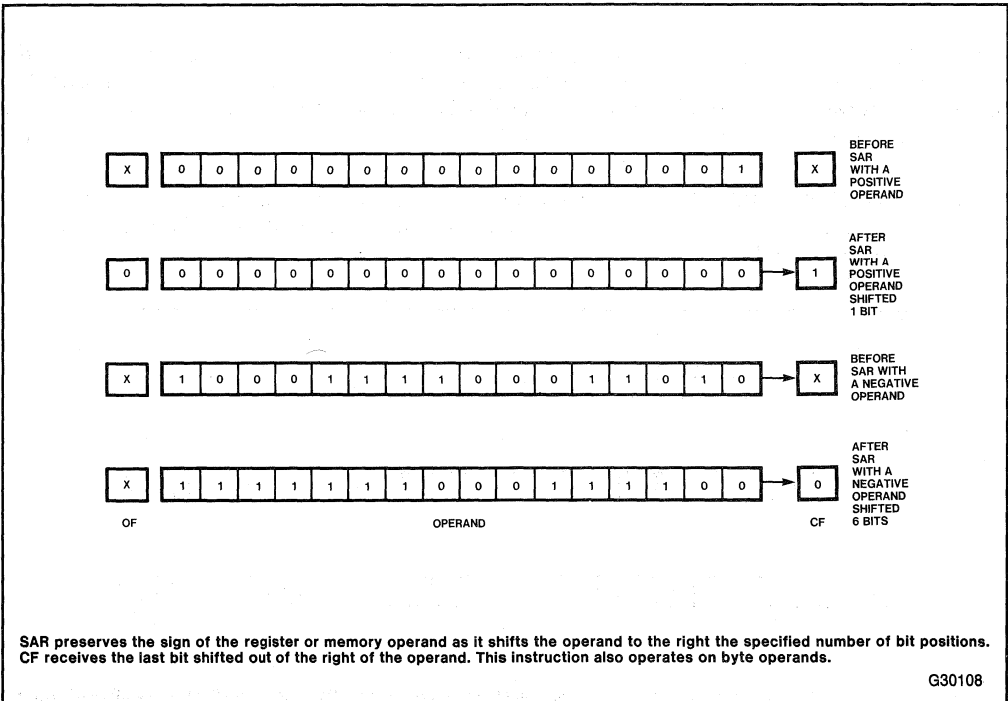

Figure 3-8. SAR
*SAR (Shift Arithmetic Right)* shifts the destination byte or word operand to the right by one or by the number of bits specified in the count operand (an immediate value or the value contained in CL). The processor preserves the sign of the operand by shifting in zeros on the left side if the value is positive or by shifting by ones if the value is negative. See figure 3-8.